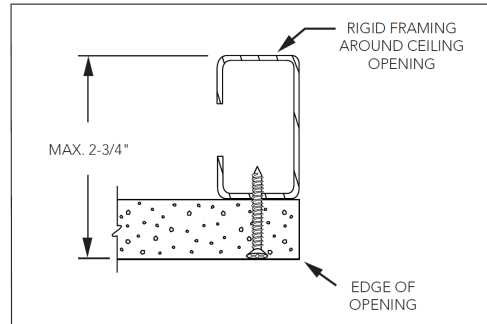

Figure 5
- d.) Rigid framing (i.e. C-channel) around the cut opening should be installed with the inside edge of the frame positioned flush with the cut opening. The ceiling material should be secured to the bottom surface of the framing. The combined thickness of the ceiling material and rigid framing should not exceed 2 3/4". (See Figure 5)